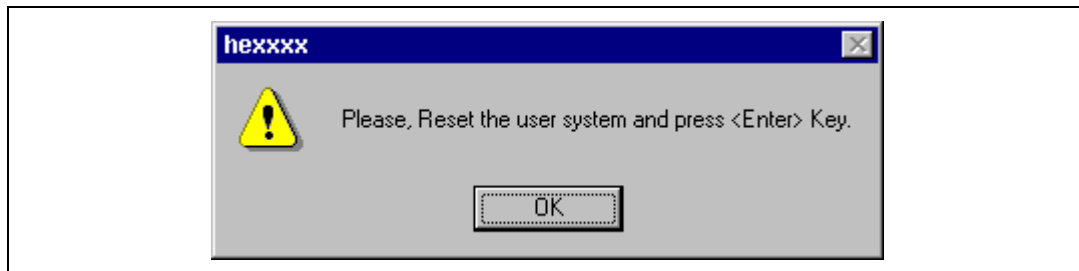

Figure 3.23 Dialog Box of the RESET Signal Input Request Message
12. The dialog box shown in figure 3.23 is displayed.